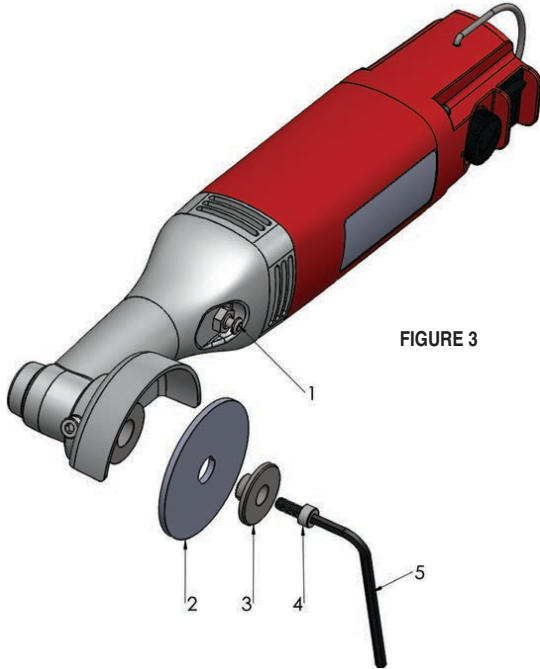

FIGURE 3
- Press the locking button 1 (FIG 3)